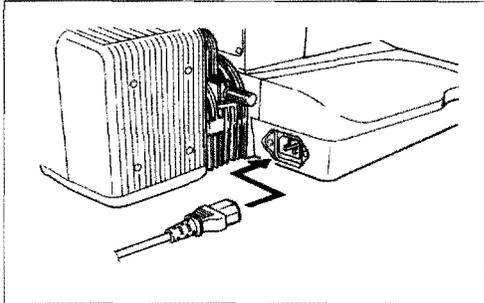

Fig. 2-21
⑬ Connecting the Power Cord
- Insert the socket of the power cord to the AC input connector and plug it into a AC line receptacle (Fig. 2-21).